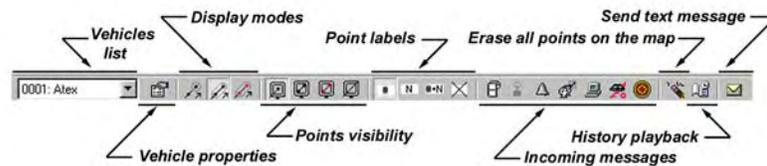

Fig. 35 VLS-Tracker Toolbar
Buttons of the toolbar on the desktop may also change the vehicle display options. (See Fig. 35). All changes are stored in database and applied with next map redraw.
- The *Toolbar* is located under the window menu line. Available are a vehicle drop-down list and control buttons duplicating menu commands or allowing to set up vehicle display parameters selected from the list. Functionally, all buttons are combined into groups. There is a separator between the groups. The detailed description of the toolbar is given below. The toolbar is shown in Fig. 35.